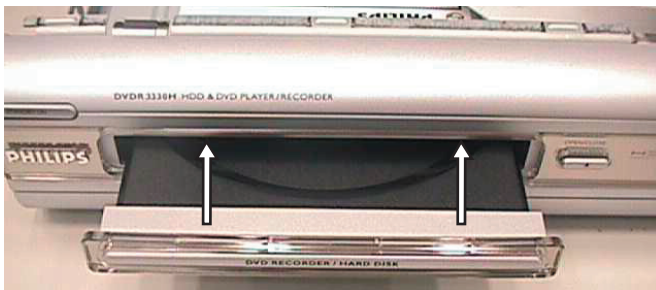

Figure 4-2
- 2) Remove the Tray cover assembly 910 as shown in Figure 4-2.